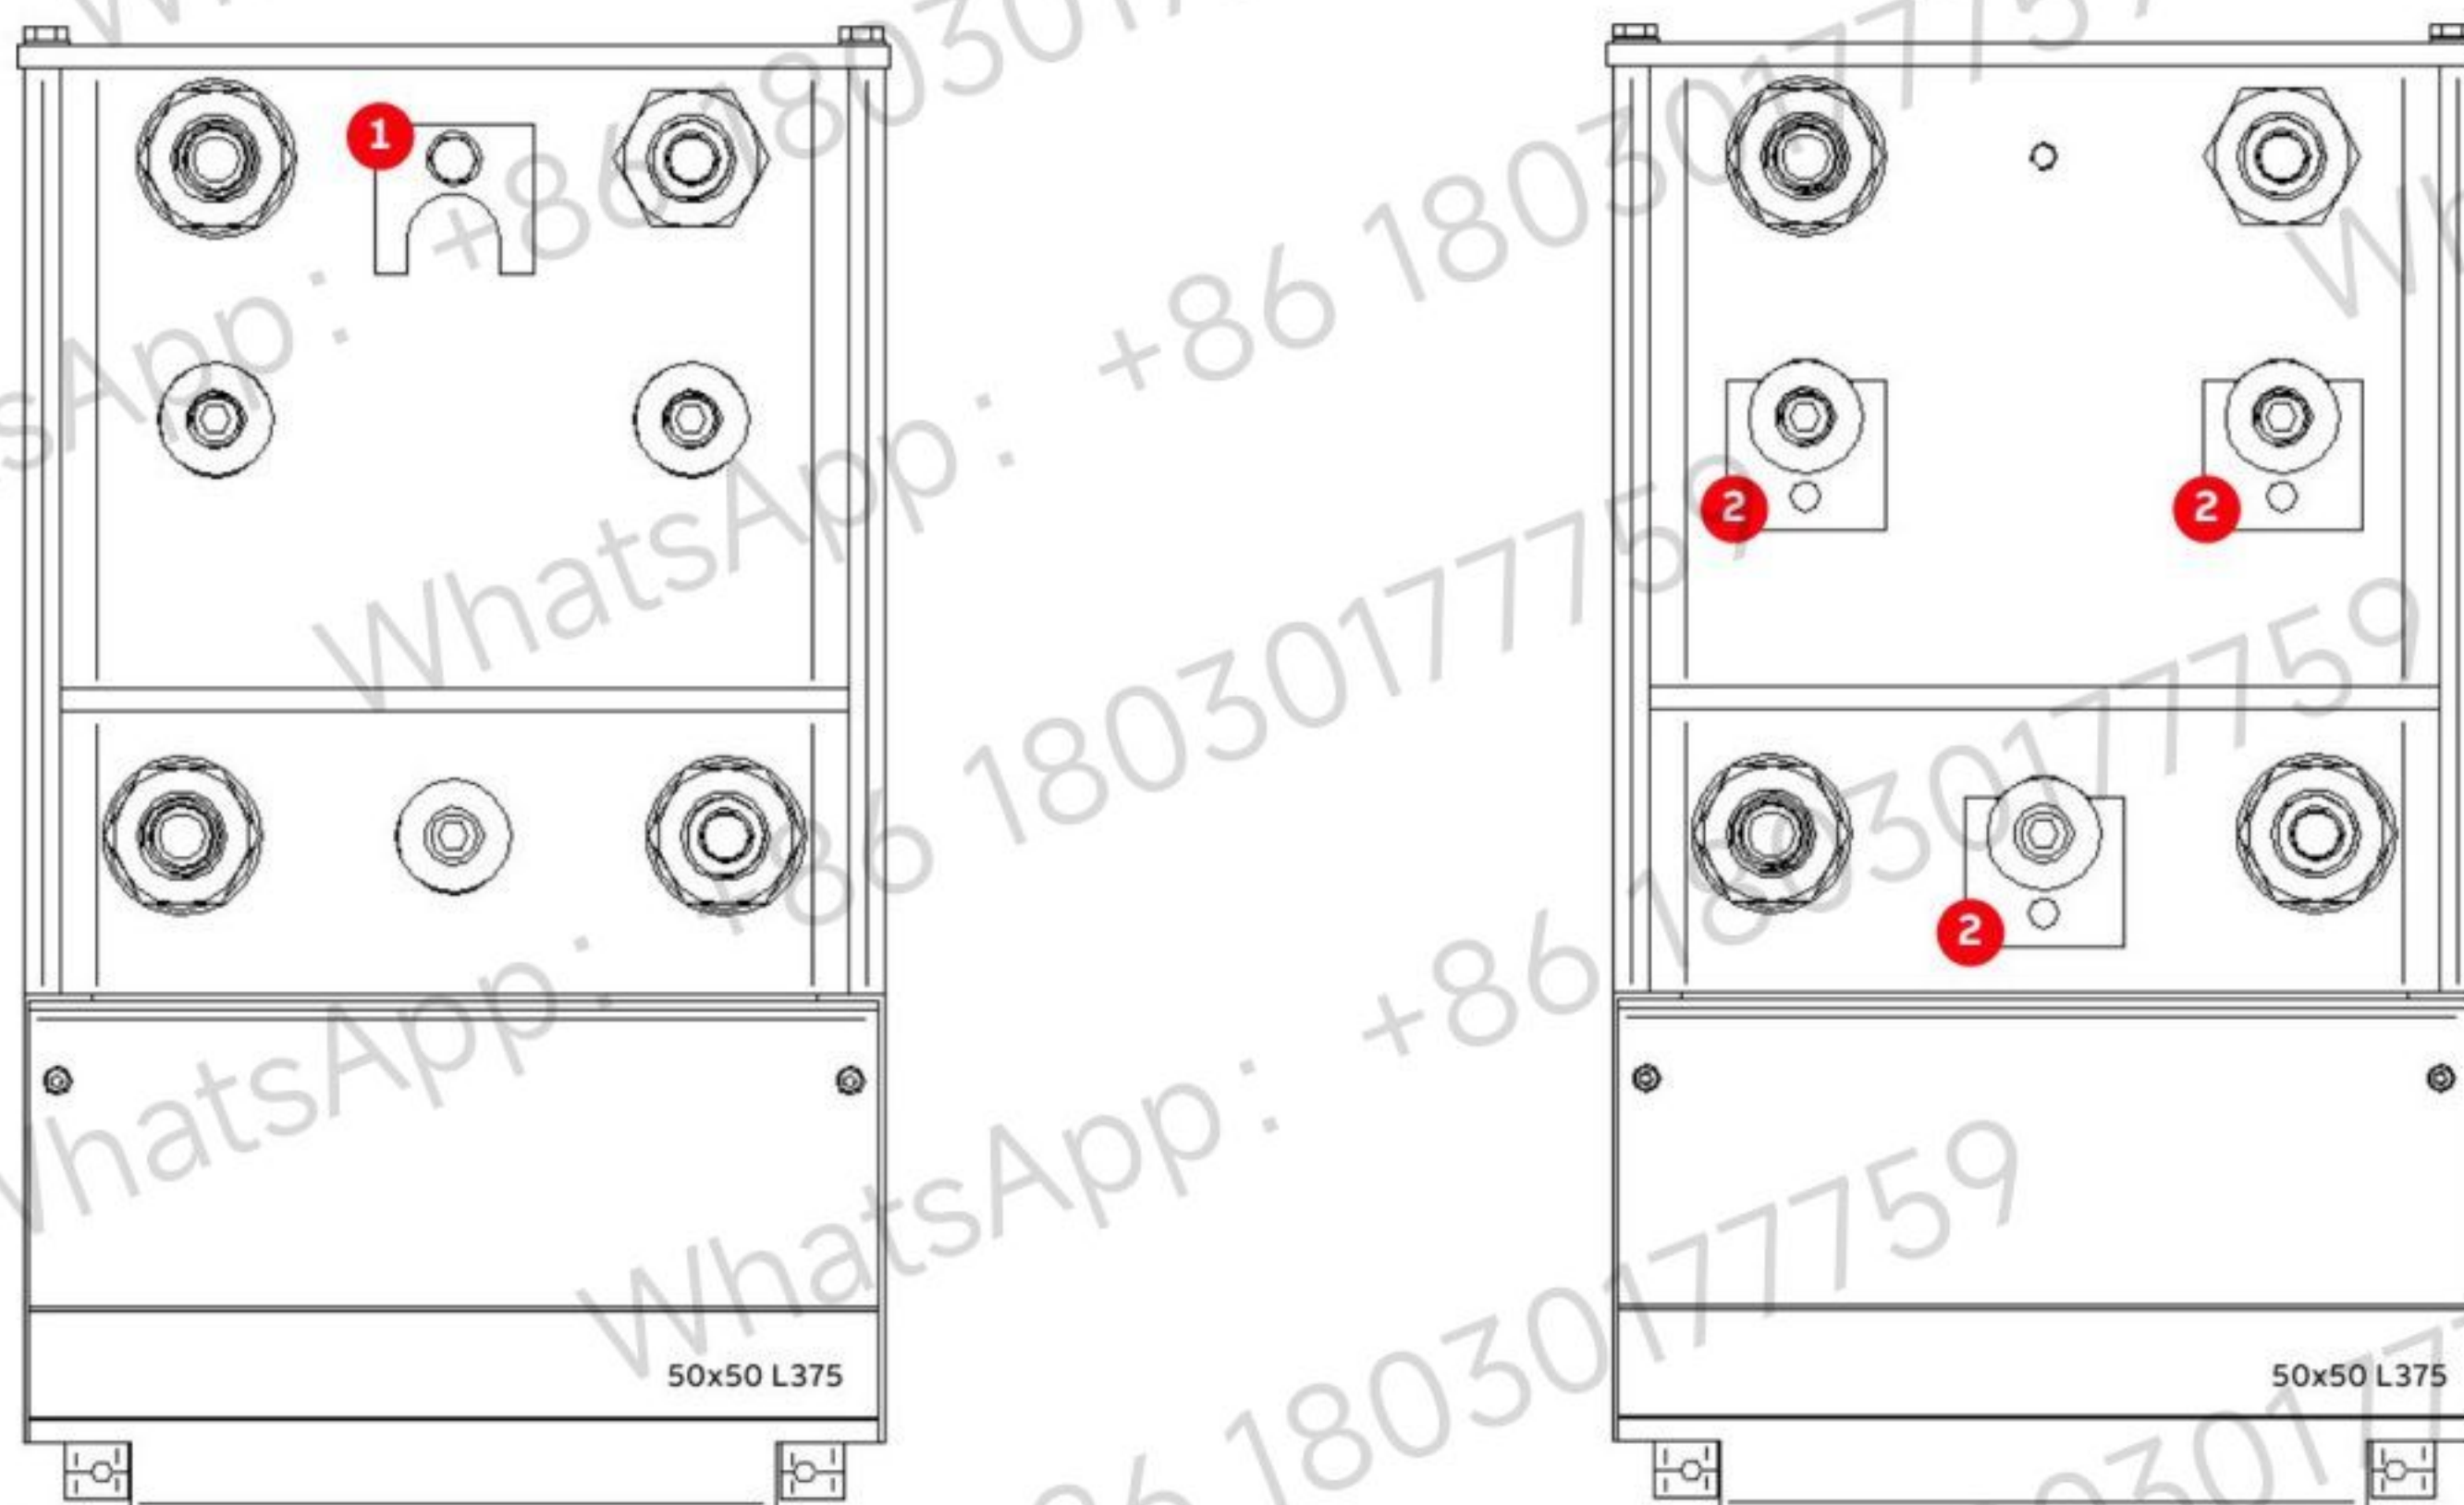

Figure 10–3 Pressure loading gauges
3. Take the three pressure loading gauges from their storage places and insert them completely under the tension jacks of the three stacks (see Fig. 10–3).
NOTICE The pressure loading gauges must be inserted completely before the stack can be released (see Fig. 10–4). Otherwise the tension jacks can break.